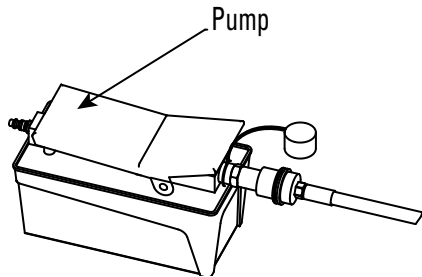
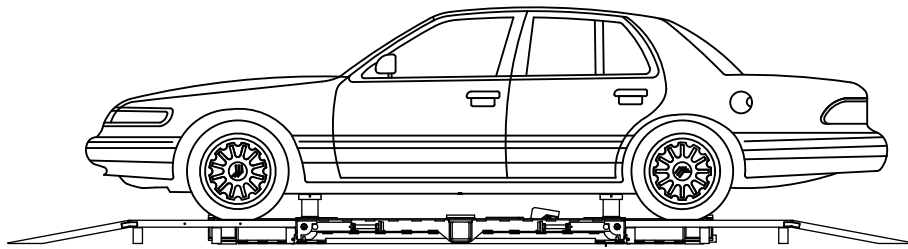

Figure 21
Figure 22
1. Press the pump portion on the pedal of the Lift Pump (see Figure 21) to raise the mainframe until the Lift Pads contact the structural components of the vehicle (see Figure 22).
2. When the vehicle is firmly positioned on the Support Stands, press the pump portion on the pedal of the Lift Pump to raise the vehicle high enough to place the Wheel Stands underneath the wheels of the vehicle (see Figure 22).